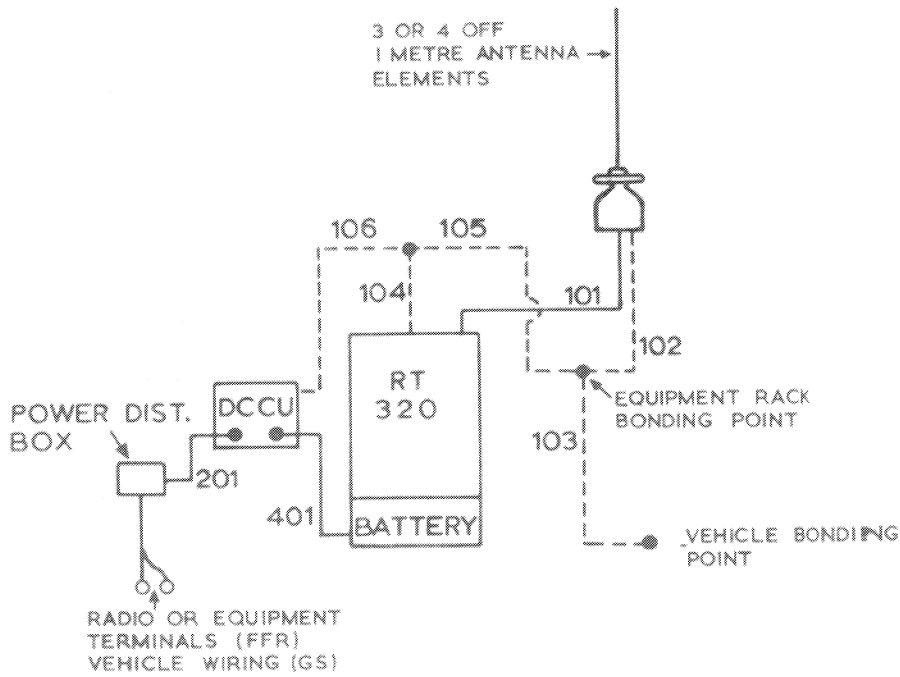

Fig. 22 Block schematic
2.11 These are shown in the block schematic fig. 22. All cables are to be clipped to the equipment rack or vehicle, as appropriate, to ensure that there is no possibility of damage to the cables. Clips for this purpose are stowed in the linen bag attached to cable assembly, power electrical, (5995-99-637-9887). Connection of lead electrical (5995-99-637-0739) is detailed in para 2.8 and connection of the distribution box in paras 2.9 or 2.10.
2.12 Bonding connections are shown in the block schematic fig. 22, and fig. 26 ($\frac{1}{2}$ ton) or fig. 27 ($\frac{3}{4}$ ton). Paint is to be removed from around the bonding points down to bare metal. Details of installation of the antenna base end of lead, electrical (5995-99-637-0104) are given in para 2.8.